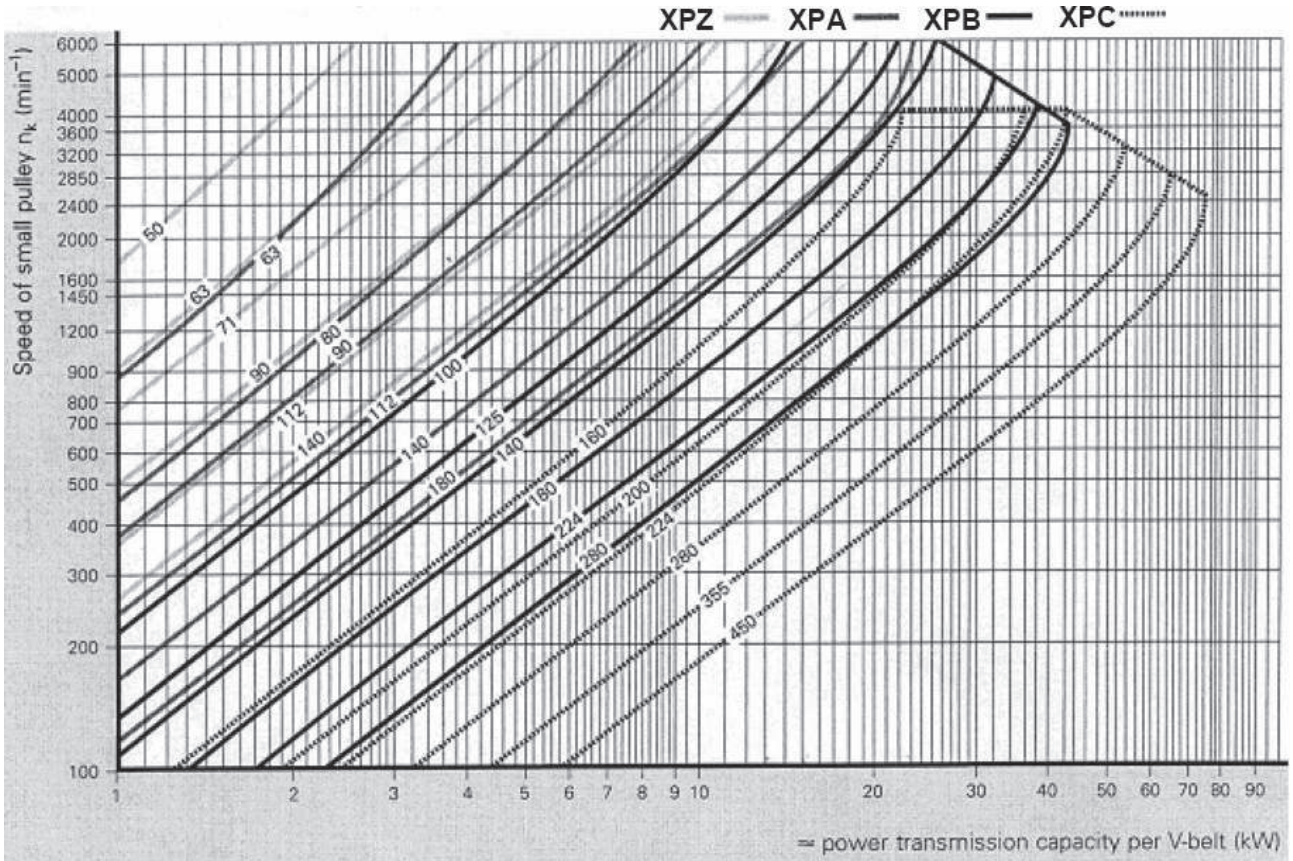
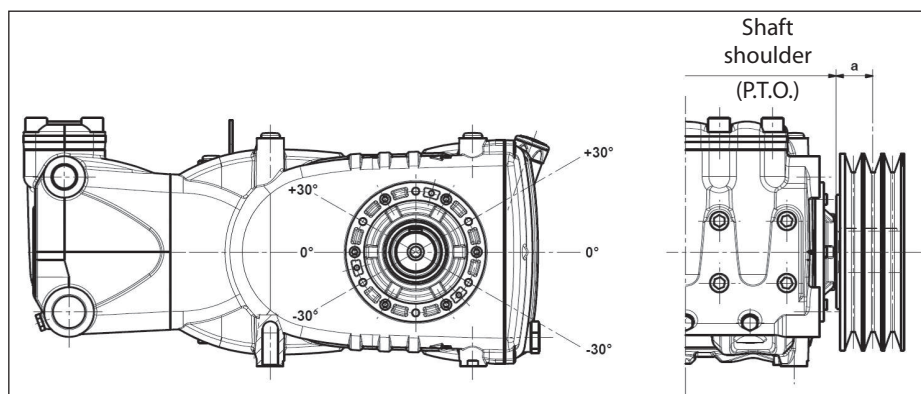

Fig. 7
Fig. 10
For these pump models, we recommend to use No. 3 XPB belts (16.5x13 serrated). Use an XPC profile only for long durations. Both the characteristics and transmissible power of each belt can be verified in the diagram in Fig. 7, in relation to the number of rpm normally declared by the manufacturer. Minimum duct pulley diameter (on pump shaft): ≥ 160 mm. The radial load on the shaft must not exceed 4500 N (value necessary for Layout definition). The transmission is considered adequate if the load is applied to a maximum distance $a = 50$ mm from the shaft shoulder (P.T.O) as shown in Fig. 10.
- b) Use high performance belts – for example **XPB** instead of **SPB** – as a lower quantity of belts for the same transmitted power may be necessary and a consequent shorter resulting distance compared to the shaft shoulder (P.T.O) "a" of Fig. 10.